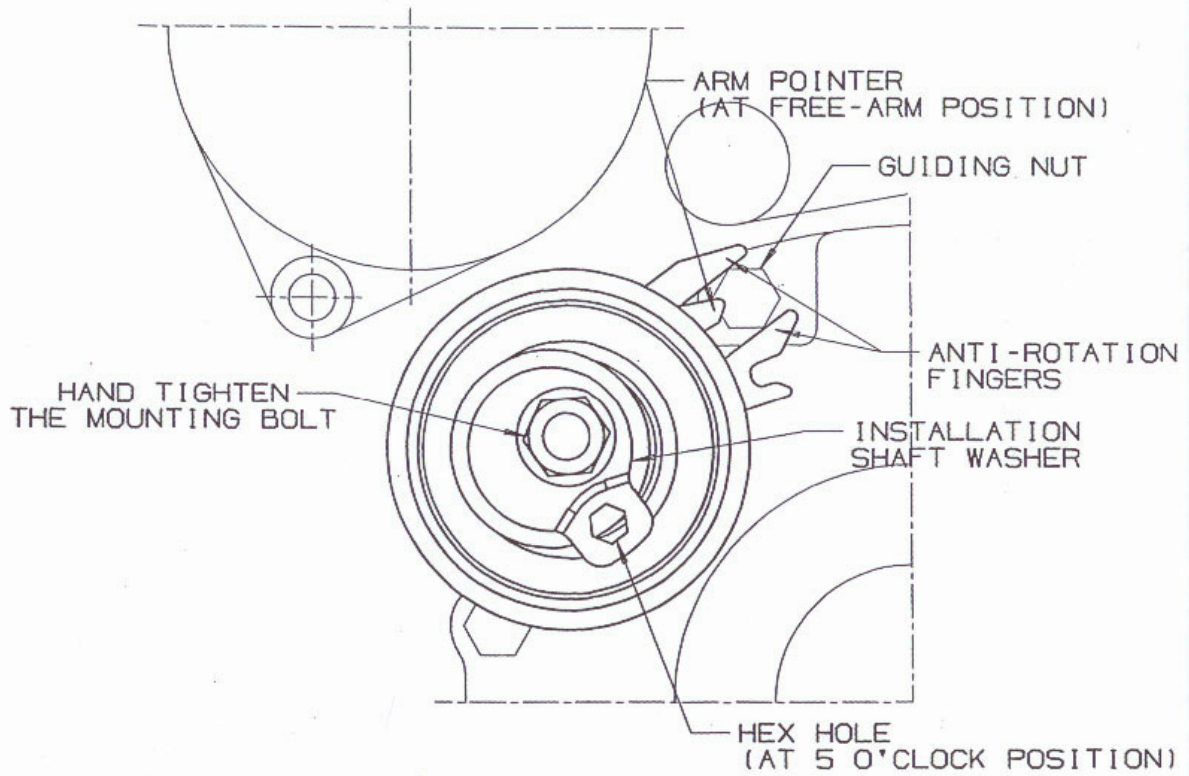

Figure 1: Tensioner shown at Free-Arm position placed on the mounting surface
4. Rotate the Installation Shaft Washer by hand, until the Hex Hole is pointing at the "5 O'clock position" then hand tighten the M8 Mounting Bolt (**See Figure 1**).
10. Engage the Hex Key and retain it's position while loosening the Mounting Bolt with the Wrench. The Mounting Bolt and the Tensioner do not need to be removed. Rotate the Installation Shaft Washer COUNTERCLOCKWISE with the Hex Key until the Arm Pointer returns to the Free-Arm Position (**See Figure 1**). Follow step #5~9.